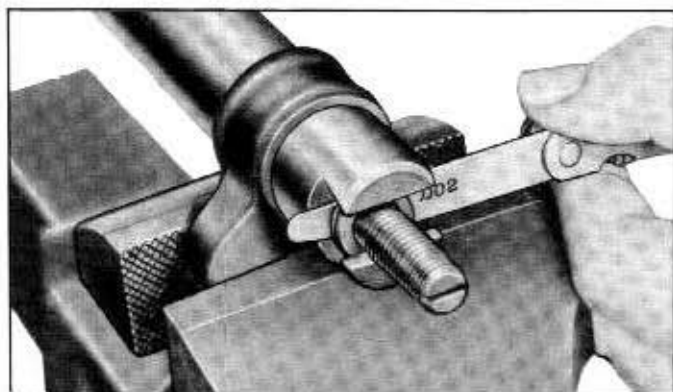

Fig. 5-17—Checking Adjusting Screw Clearance in Sector Shaft—Typical—(60C-1218)
15. Position the sector adjusting screw and adjuster shim, and check the end clearance which should not exceed 0.002 inch between the screw head and the end of the sector shaft. If clearance is greater than 0.002 inch, replace the shim. See figure 5-17.